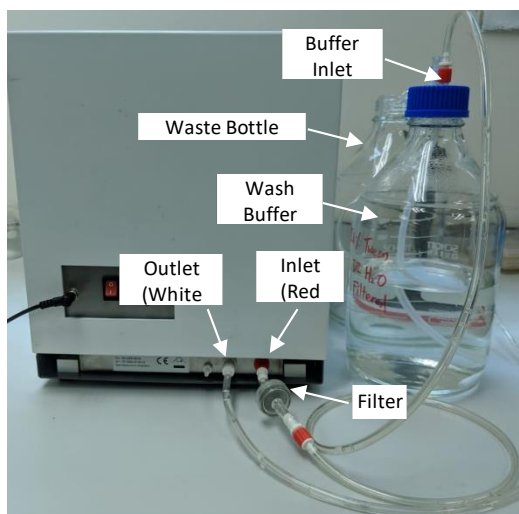

Figure 3-12: Assembly of tubings from bottle caps to HT2000
15. Insert the two delivery tubes into the respective ports on the HT2000 in the manner specified below (Figure 3-12):
3. Connect a clean filter into the red connector end of the inlet tubing and insert into the red port on the HT2000. Insert the other end of the inlet tubing into wash buffer bottle via the buffer inlet bottle cap. Refer to Figure 3-12.
3. Ensure the two delivery tubes are properly connected into the respective ports (red and white) on the HT2000. A clean filter is installed into one end of the inlet tubing and inserted into the red port on the machine. The other ends of the tubes are connected to either the wash buffer bottle via the buffer inlet bottle cap (from red port) or the waste container (from white port). Refer to Figure 3-12.